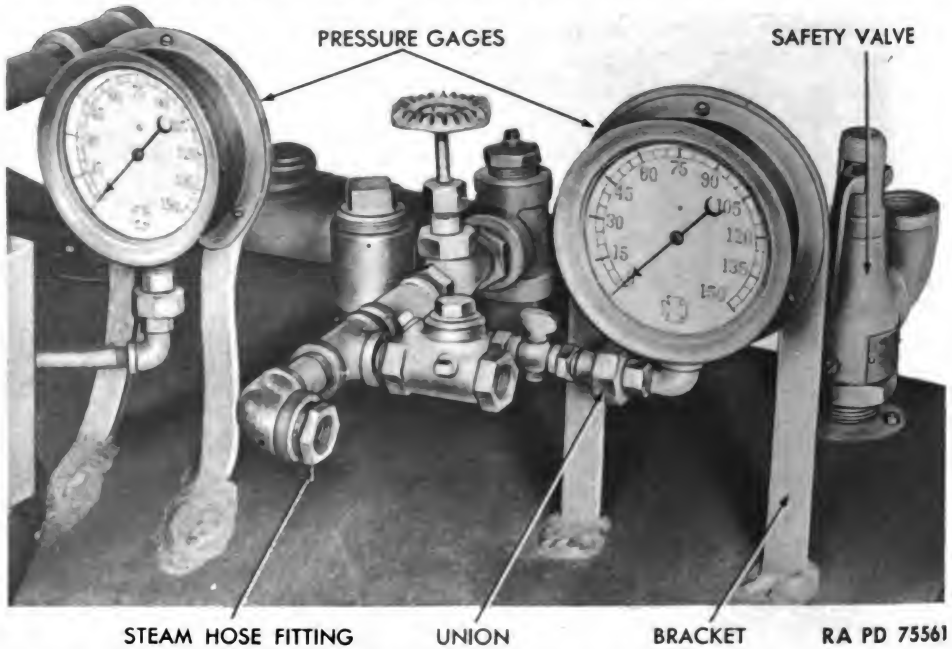

Figure 115 — Steam Generating Plant Pressure Gages and Safety Valve
(1) REMOVAL OF STEAM PRESSURE GAGE (fig. 115).
- (2) **INSTALLATION OF STEAM PRESSURE GAGE** (fig. 115).